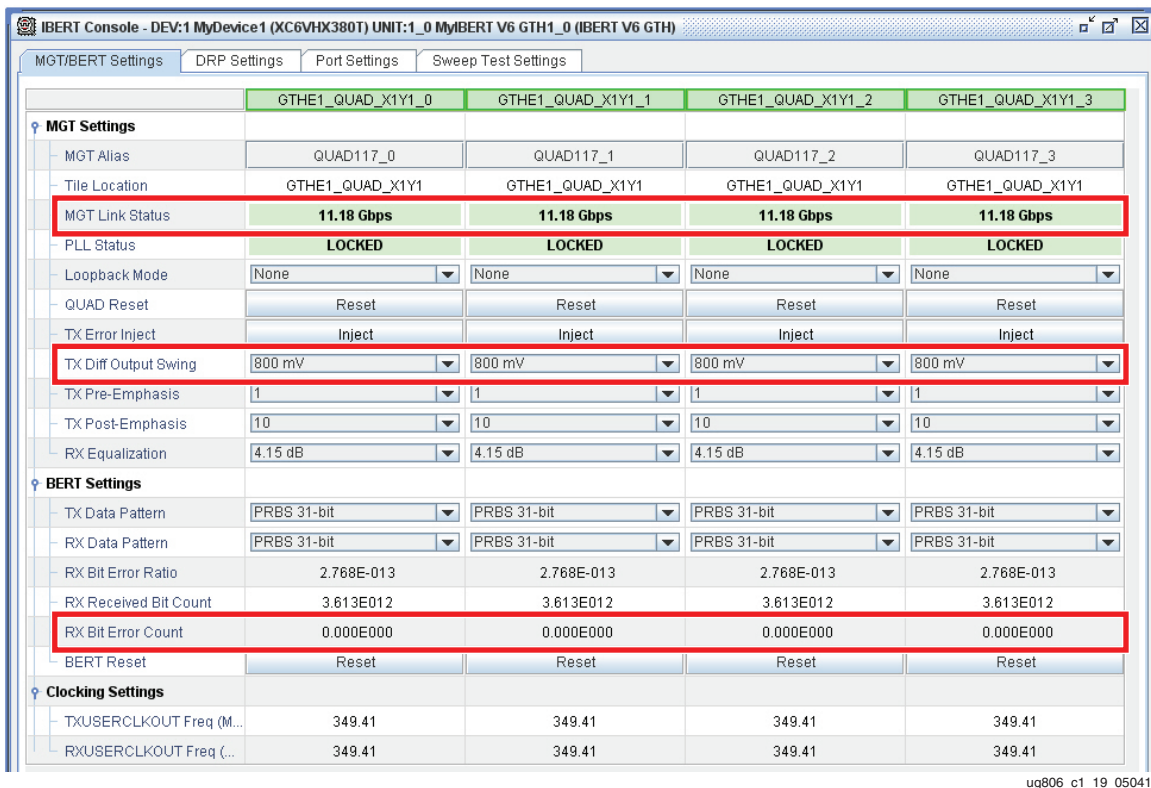

Figure 1-19: GTH IBERT Console
After completing step 11 in Starting the SuperClock-2 Module, the IBERT demonstration is configured and running. The status and test settings are displayed on the **MGT/IBERT Settings** tab in the IBERT Console shown in Figure 1-19.
- The line rate for all four GTX transceivers is 11.18 Gps (see **MGT Link Status** in Figure 1-19).